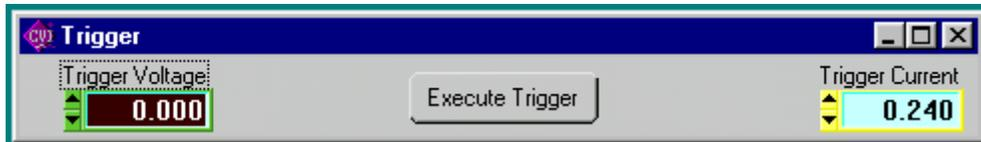

FIGURE 5. TRIGGER WINDOW
2.2.5 The **Trigger** button opens the Trigger window (Figure 5) which allows setting of trigger voltage and current values. Clicking the Trigger button within the Trigger window causes the power supply output to be programmed to the settings stored in the Trigger Voltage and Trigger Current displays. .